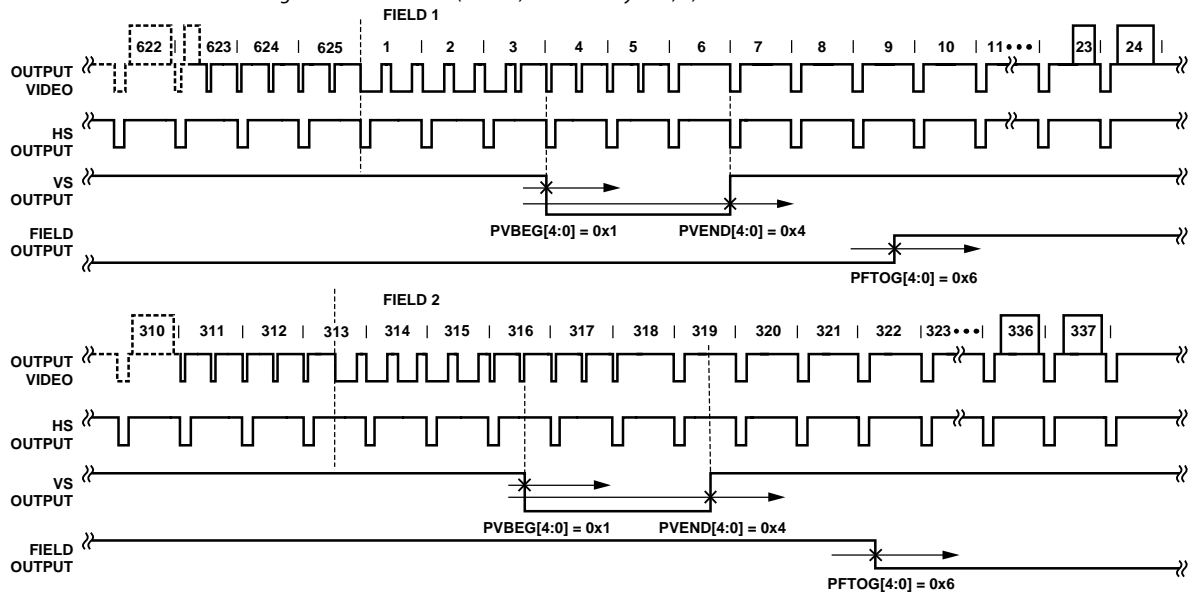

Figure 27. PAL Typical Vsync/Field Positions Using Register Writes in Table 57
**Table 57. Recommended User Settings for PAL (see Figure 27)**